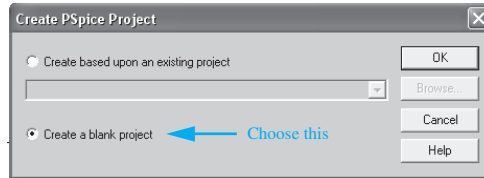

FIGURE 2.61 Create a PSpice project.
4. As soon as “OK” is selected, the next window (shown in Figure 2.61) will pop up to ask whether to use a project created based on an existing project for the file. At this stage, you may use an existing project and modify the parameters or you may create a new one. In most cases, we will create a new project. Thus, we choose “Create a blank project” and press OK.